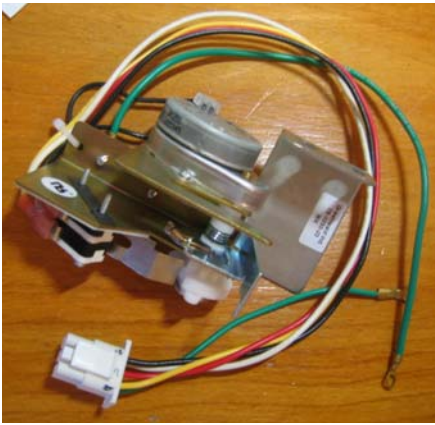

Figure 3.2.7
1. Remove the coin slider interface and the mechanical unit as in figure 3.2.7 (if any exists)